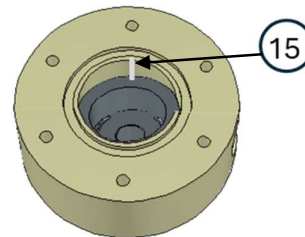

Figure 11
- 3- Remove the metal rod and insert the pin (15) as far as it will go (Figure 11)